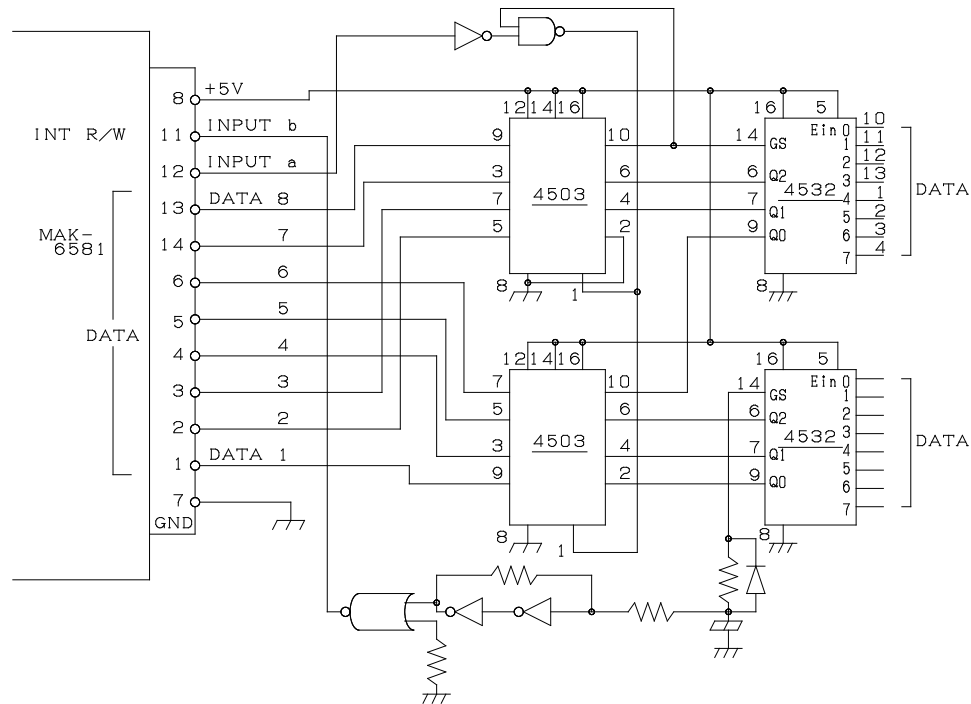
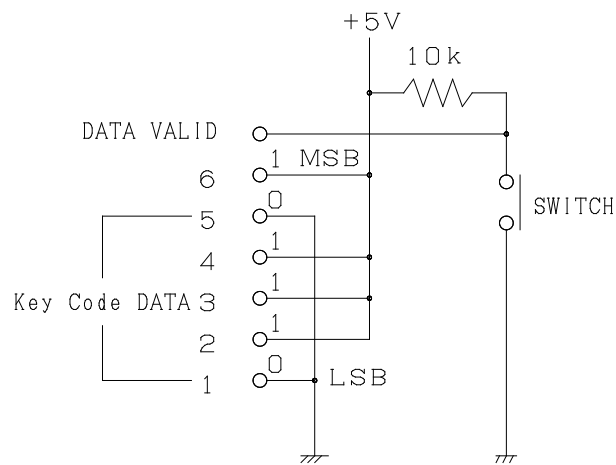
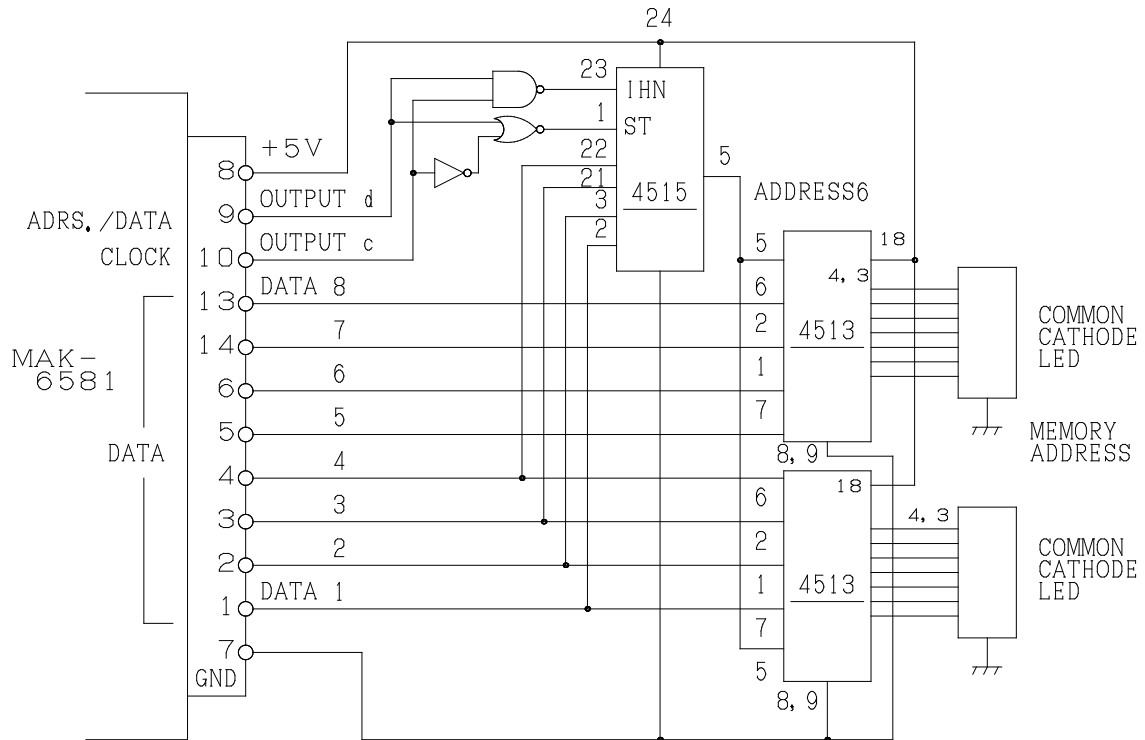

Fig. 7
Fig. 9 Chattering Prevention Circuit Not Shown
Fig. 11
Since the data lines at the remote control connector constitute a bidirectional bus, when performing external control, a circuit such as shown in Fig. 7 is recommended.
“0” and “1” data are applied to the Key Code DATA inputs of Fig. 7 using the key codes in the tables that follow, according to the input data timing shown in Fig. 8 and data is sent by applying “0” to DATA VALID.
Referring to the key code table, the MEMORY ADDRESS STEP ③④ key data of “101110” is applied to the Key Code DATA 1~6 of Fig. 7 as shown in Fig. 9, and DATA VALID is sent.
Each time the switch in Fig. 9 is pressed, the MEMORY ADDRESS display increments by 1, and by using other key code data, it is similarly possible to control any other panel switch.
Refer to Fig. 11.
Since the remote control pins constitute a bidirectional bus, an output circuit shown in Fig. 11 may be used, as is the case with the MEMORY ADDRESS.
If the connector parts of Fig. 7 and Fig. 11 are connected in parallel, in addition to external control, the MEMORY ADDRESS or other display data may be verified.